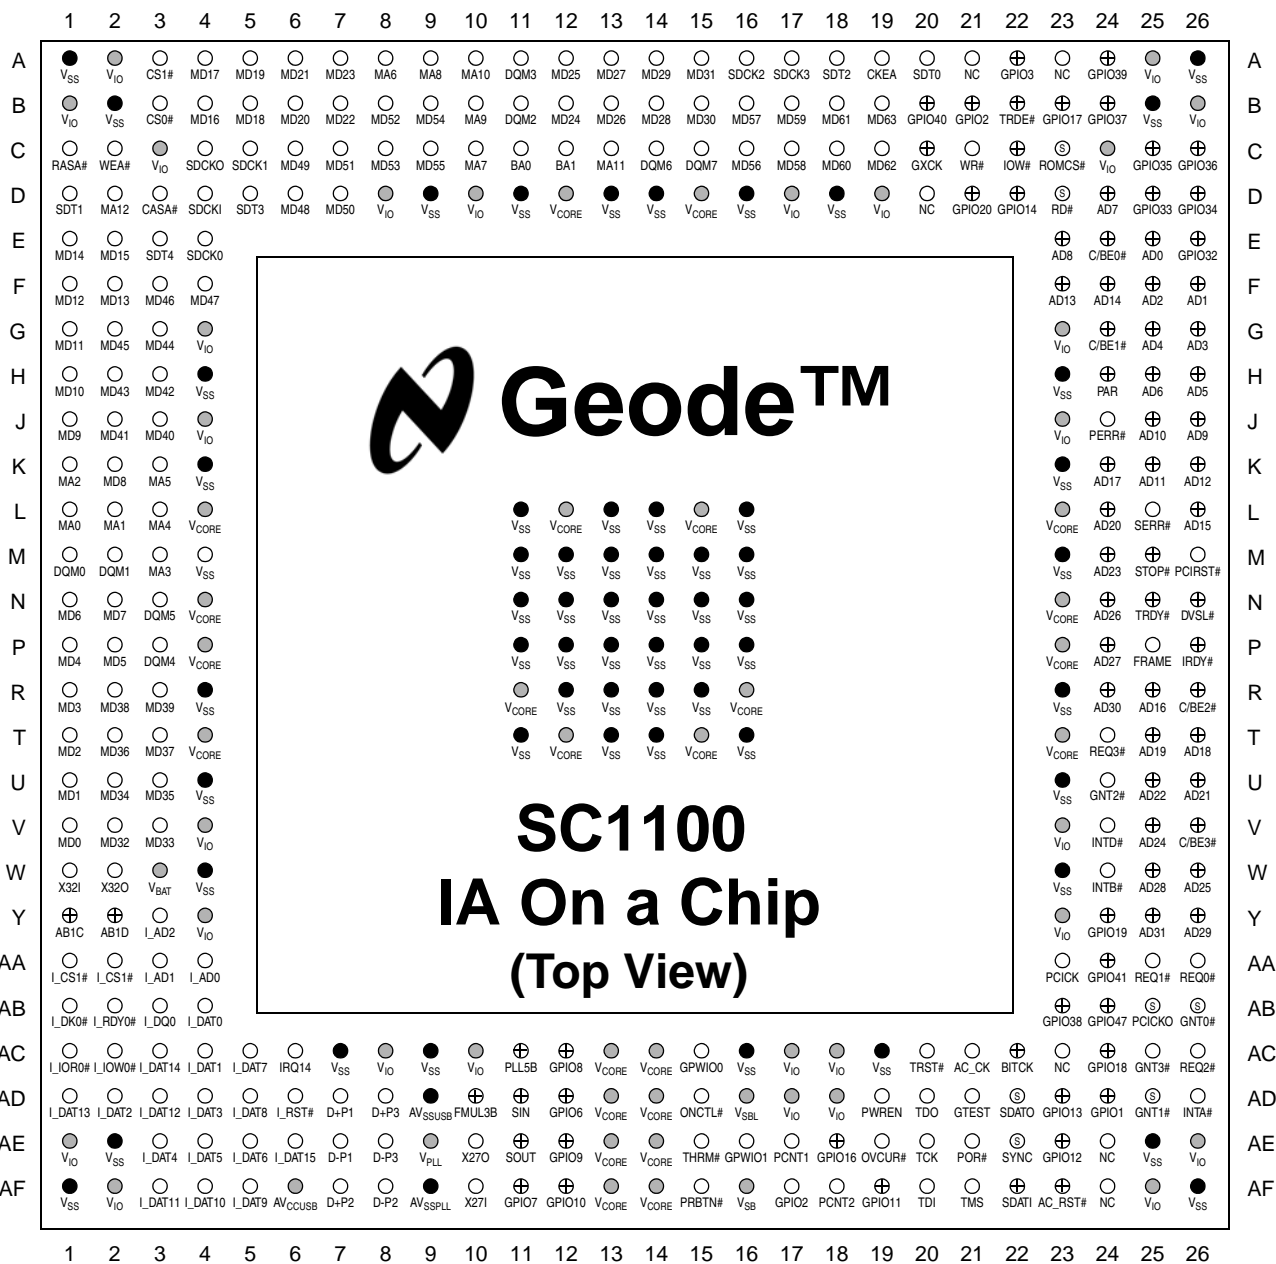

Figure 2-2. 388-Terminal Ball Assignment Diagram (Top View)
- Figure 2-2 "388-Terminal Ball Assignment Diagram (Top View)" on page 18: Illustration of ball assignment.